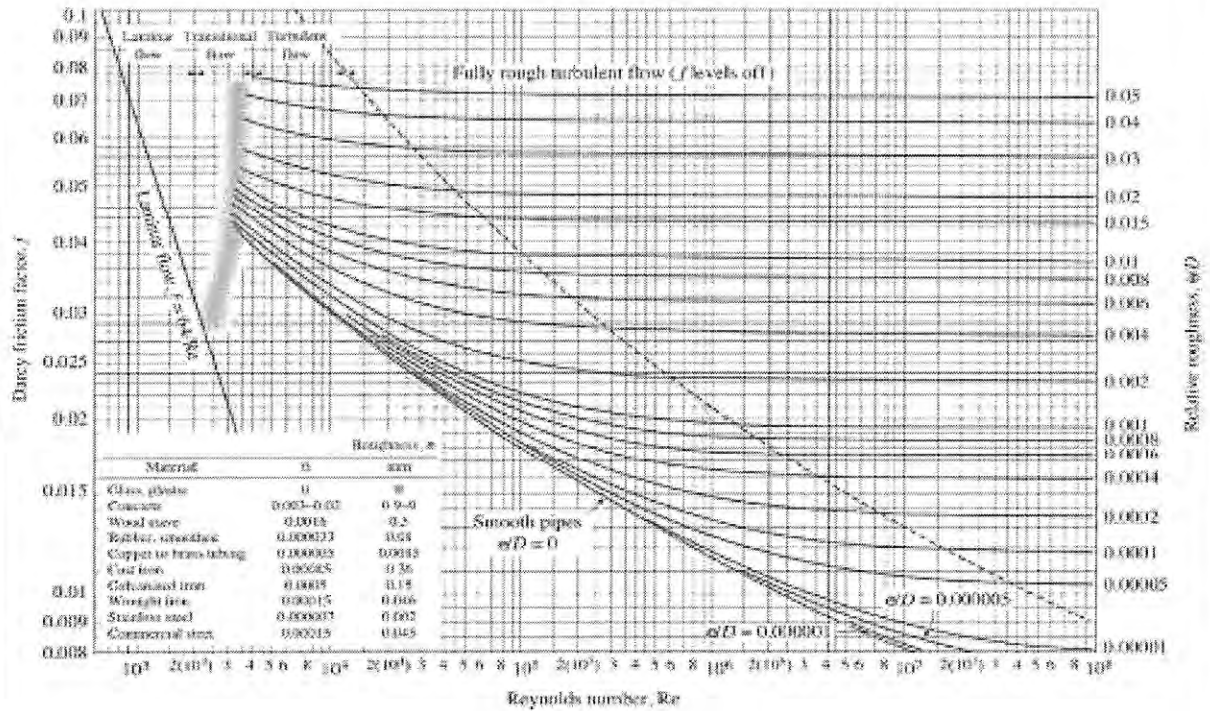

FIGURE Q4(b)
- Q4** (a) Discuss briefly the minor losses in pipes and give **THREE (3)** contributors to the minor losses in pipes. (5 marks)
- (iii) Determine the friction factor from **Figure Q4(b)**. (*Note: Please attach the Moody diagram that has been marked with your answer together with the answer script*) (3 marks)